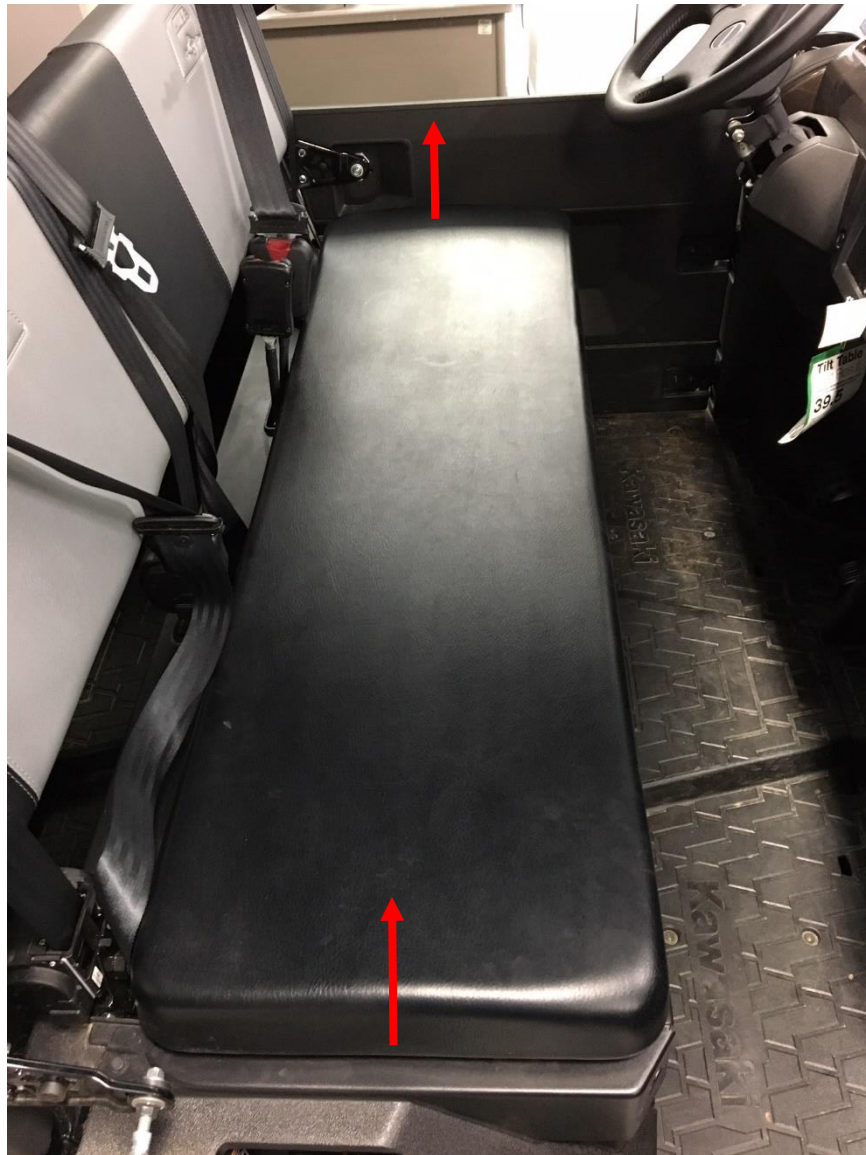

Figure 12: Remove the seat.
9. Remove the seat by lifting up on each end. The seat is snapped in place to two rubber grommets that will release with a slight tug. See Figure 12.